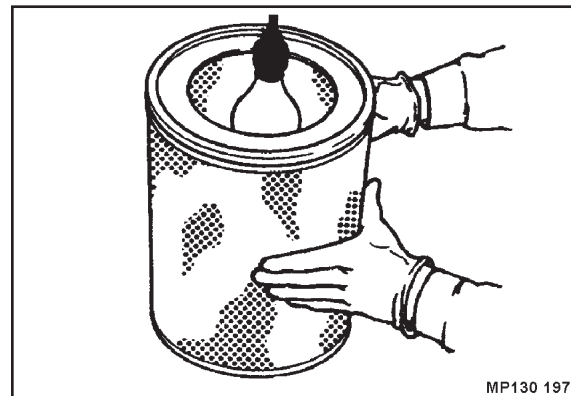

Fig. 164
- Examine the filter cartridge with a lamp for cracks and holes in the paper bellows (Fig. 164).